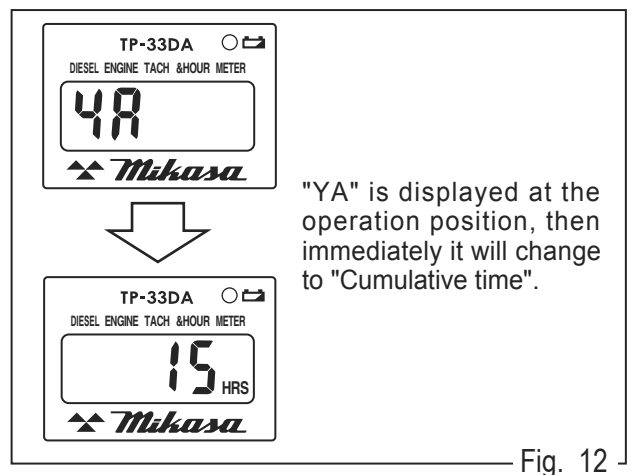

Fig. 12
- b. The buzzer starts. After "YA" is displayed on hour tachometer, the display will change immediately to "Cumulative time".(Fig.12)